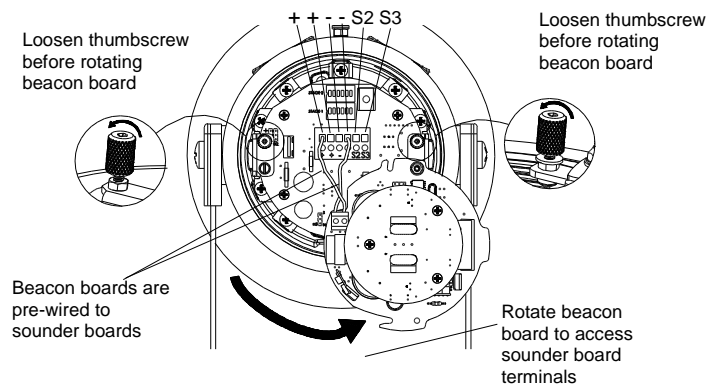

Fig. 8 DC Terminals
- Fit an M20/NPT suitably rated cable gland or conduit entry into the hole in the enclosure and connect the field wiring to the appropriate alarm horn terminals as shown in fig. 6 (AC) or fig 8. (DC). The power supply terminals are duplicated so that units may be connected in parallel. An end of line monitoring resistor may be fitted to DC units only (see section 14). If the second and third M20/NPT entries are not used, suitably rated stopping plugs must always be fitted.
Stage one (S1) operation: Simply connect the supply voltage to the + and - supply terminals, (see fig. 8).